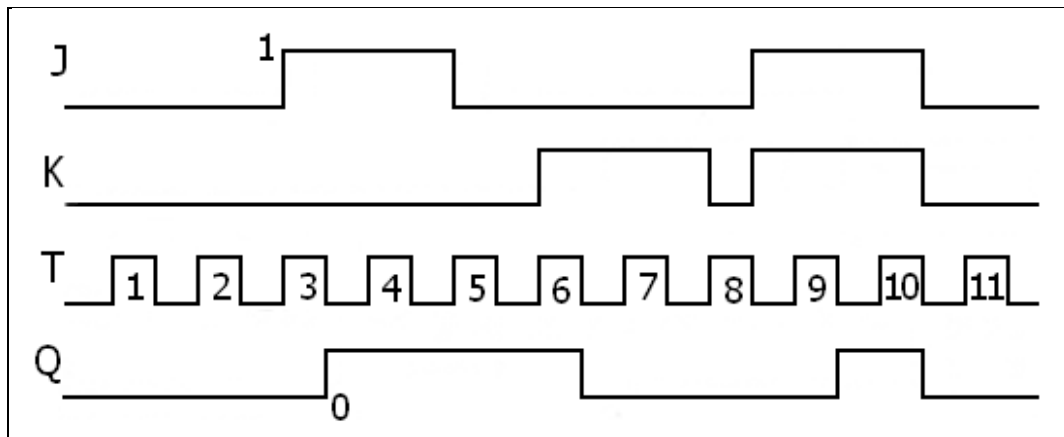

Fig. 3.3-13 Master-Slave JK Flip-Flop Random Input/ Output Waveforms
When the clock line switches from high to low (trailing edge), the state of the master latch is transferred to the slave latch. If the JK-inputs are high or open, the flip-flop output will change state each time, the clock input switches from high to low for toggling operation (continuous pulse train). To reset the JK-flip/flop, apply a 0 to the J input and a 1 to the K input and then apply a clock pulse to reset on the trailing edge ↓ of the clock signal. To set the JK-flip/flop, you apply a 1 to J and 0 to K and again apply a clock pulse to set on the trailing edge ↓ of the clock signal. Assuming the J and K inputs are open or high for toggle mode of operation, the waveforms, as shown in Fig. 3.3-13, represent the normal flip-flop output. The 0 to 1 transition (leading edge) of the clock pulse (T) does not affect the output when the master flip-flop is in action. The flip-flop output changes, when the clock switches from logic 1 to 0 (trailing edge).